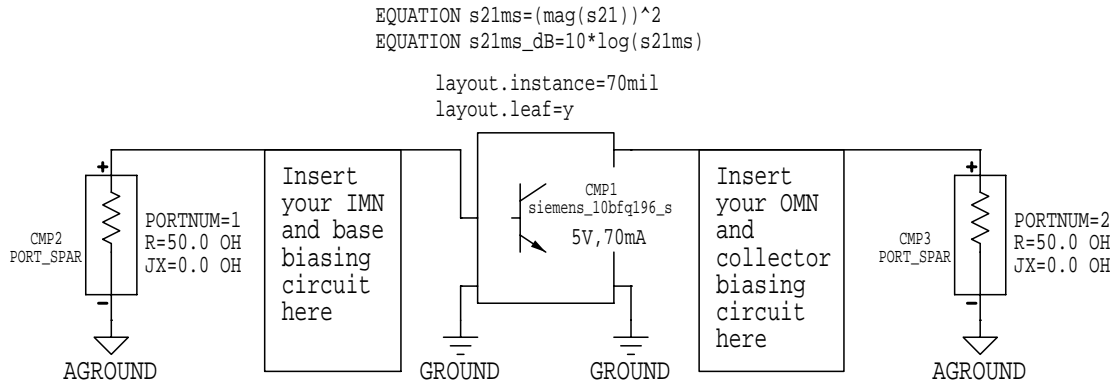

Figure 4: $G_{T,max}$ amplifier circuit
- In the Lab3 workbench, create a new circuit page called Amp_GTmax. The circuit you need to build looks like Figure 4 (insert your own matching networks and bias circuits).
- This correct circuit to simulate is the one shown in Figure 4, with the IMN, OMN, and bias subcircuits in their proper positions.